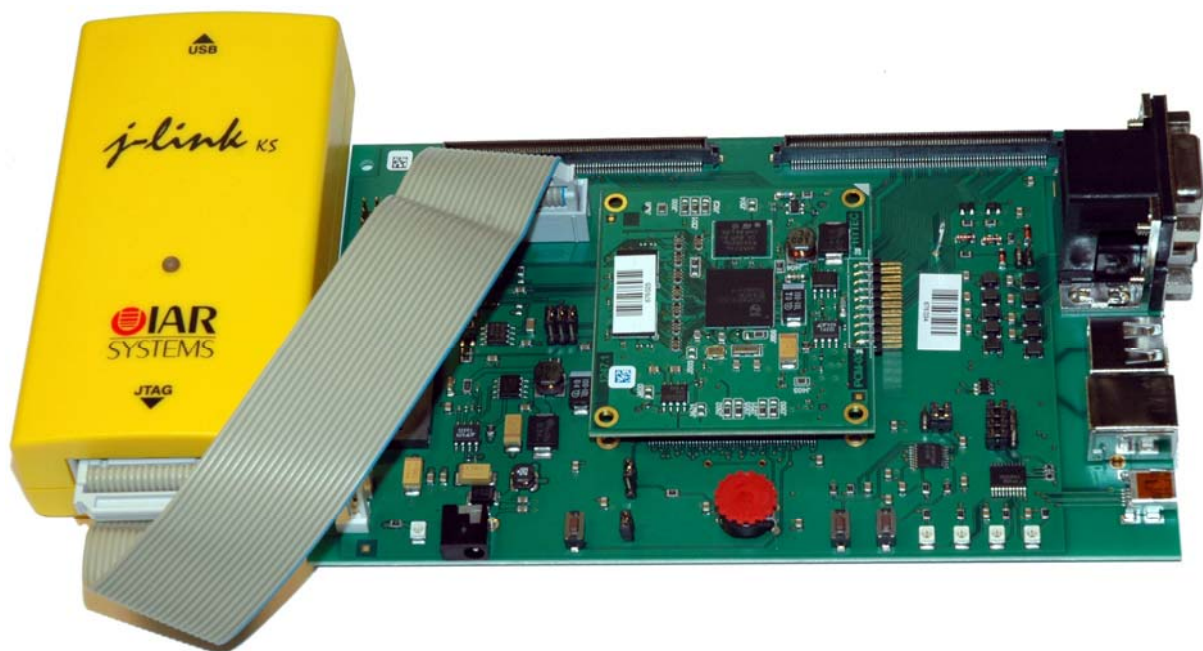

Figure 2: JLINK Connected to the phyCORE-LPC3180 Rapid Development Kit
- Mount the phyCORE module, pins-down, onto the Carrier Board's receptacle footprint (X200) as shown in *Figure 2* below. Ensure that pin 1 of the module matches pin 1 of the receptacle on the Carrier Board. The JTAG PCB edge connector on the phyCORE-LPC3180 module will point towards the DB-9 connectors on Carrier Board.